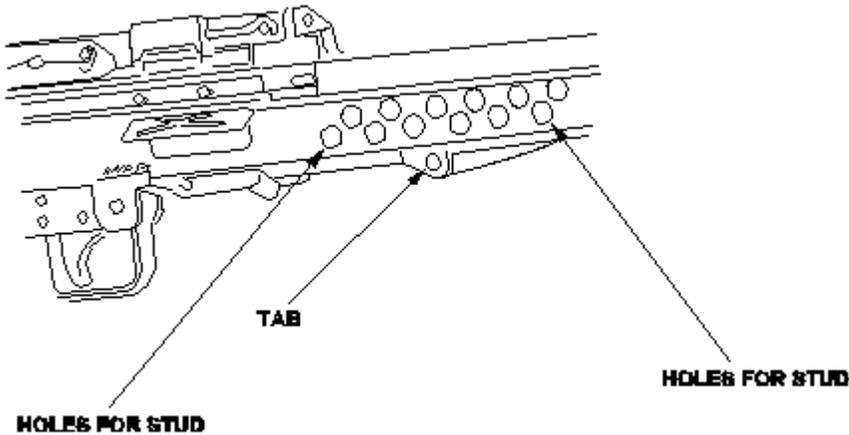

Figure 2
- (3) (Figure 2) Install the right adapter rail (the one with two rails) on the right side of the receiver. This rail has a relief cut for the tab located on the bottom of the receiver to allow the rail to fit flush against the bottom of the receiver, and also allows the two studs to fit into the holes on the side of the receiver.